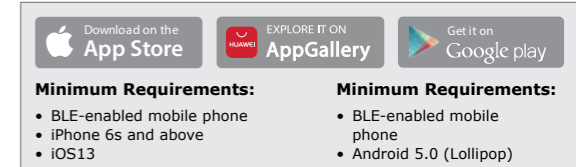

FIGURE 35
1. Scan the QR Code in Figure 35.